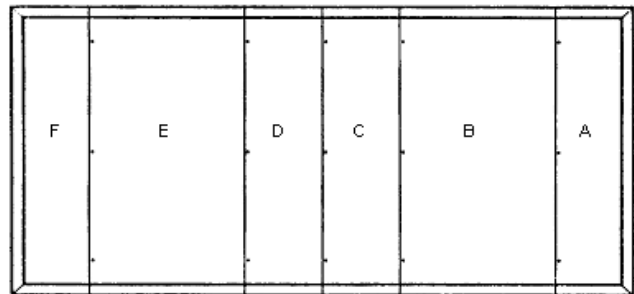

FIGURE 2 - FLOOR PANEL LAYOUT
3. Refer to Figures 2 and 3 for examples of typical panel layouts. The instructions in this manual reference the panel numbers shown in the illustrations. Your walk-in may be different from that shown, but the installation procedure is the same. Refer to the floor plan drawing packed in the hardware box for your particular walk-in.
All floor panels are identified by letters. The first floor end panel will be identified by the letter "A" and remaining panels B, C, D, E, etc., in sequence (Refer to Figure 2). Place floor end panel "A" into position and level front to back and side to side. Place the remaining floor panels, locking and leveling each panel as you go. Be sure all camlocks are locked to the full cam position and all panels are level.